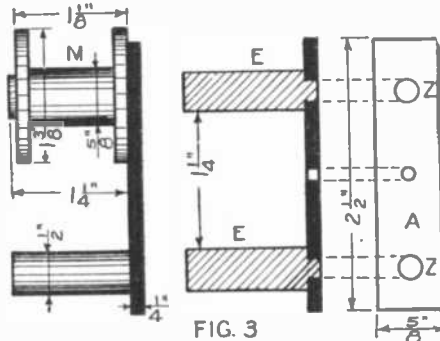
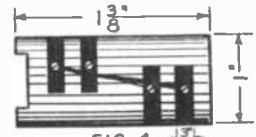
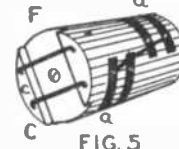

FIG. 3
FIG. 4
FIG. 5
Through a thin iron plate (Fig. 3) $\frac{2}{32}$ to $\frac{4}{32}$ inch thick, $2\frac{1}{2}$ inches long and $\frac{5}{8}$ inch wide two holes (zz) are bored, for riveting in two iron cores, (EE) of the same material as we use for the magnet, in other words, of $\frac{1}{2}$ inch round iron. Excluding the extension for riveting, each of these cores is $\frac{1}{4}$ inches long, and they
This consists of a wooden cylinder, Figs. 4 to 6, of 1 inch diameter and $1\frac{3}{8}$ inches long. The central hole must be accurately placed. On the cylinder are secured four strips of thin brass, $\frac{3}{32}$ inch wide and of such a length that they extend a little more than half way around the circumference of the cylinder. These strips are spaced equidistant one from the other, and
screwed down fast and connected two and two—the two inner ones to each other and the two outer ones to each other, as shown in Figs. 4, 5 and 6. The two inner strips (b, b) can be made of one piece which will take care of their electric connections. The two outer strips (a, a), Fig. 5, are connected by thin copper wire which is bedded in a rather deep groove so as not to touch the thin plates (b, b). Paraffined
is made of an iron or brass wire $3\frac{5}{8}$ inches long and about $\frac{1}{8}$ inch thick. The thinner portions, acting as bearings at the end, are each $\frac{3}{16}$ inch long. At the one end of the commutator there is a groove (F), Fig. 5, cut out, which closely fits the cross piece of the armature when it also is in position on the shaft. Clamps of wire go over the cross piece holding it in the groove. (C, C), Fig. 5, show these clamps.
Fig. 7 is a drawing of the armature shaft, one end of which carries the two-coil unit shown in Fig. 3. The brushes to be used in connections with the commutators shown in Figs. 4, 5 and 6 are constructed as shown in Fig. 8.